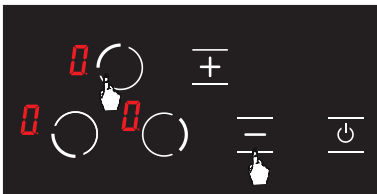

Figure 18
1. Press upper left hob selection key ( **0** ) and minus key ( **-** ) simultaneously, you shall hear a short warning signal at this time. (see Fig. 18) Then, remove your fingers from the stove control panel.